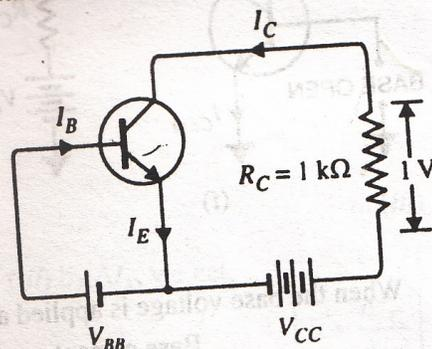

Fig. 10.19
**Solution.** Fig. 10.19 shows the required common emitter connection. The voltage drop across  $R_C (= 1 \text{ k}\Omega)$  is 1 volt.